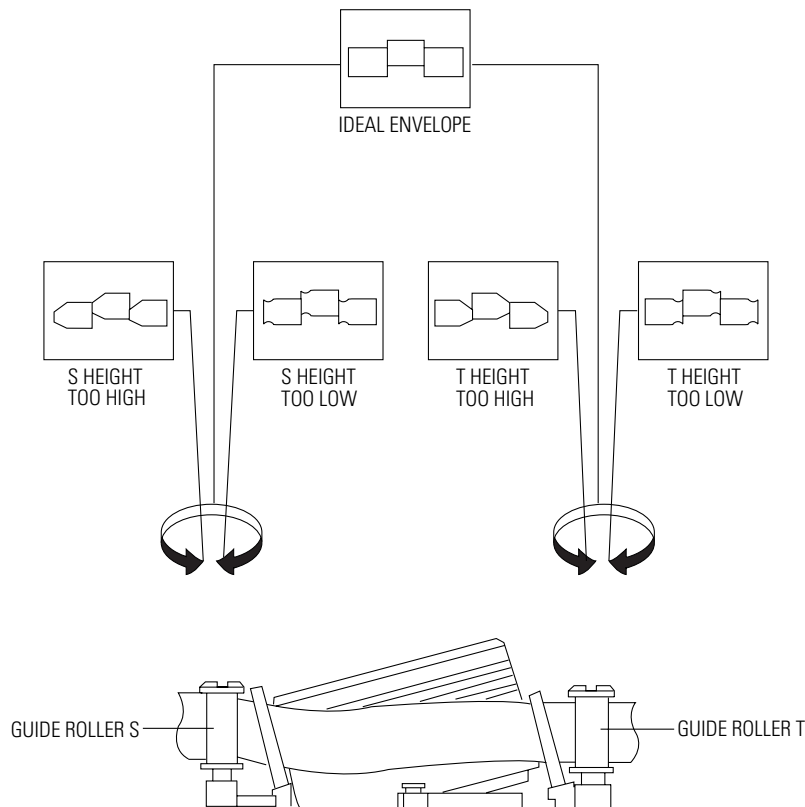

Fig. 4-11 Guide Roller S, T Height Adjustment
- 8) Turn the guide roller heads with a flat head () driver to obtain a flat video RF envelope as shown in Fig. 4-11.